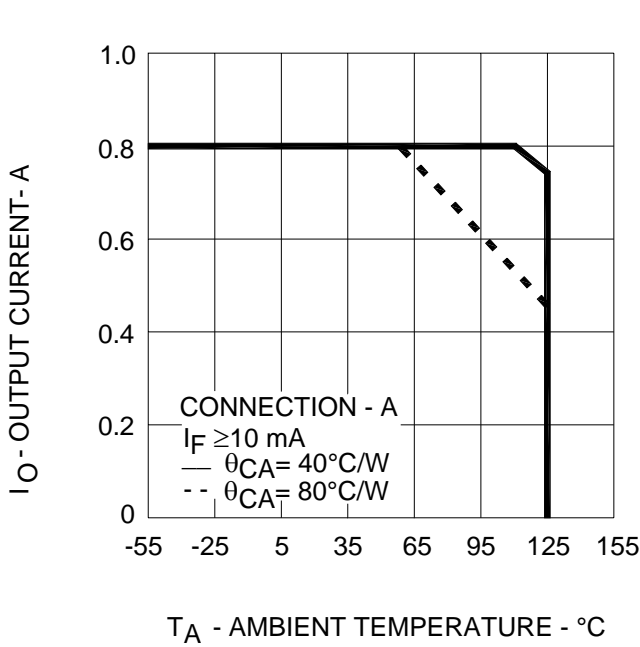

Figure 3. Maximum Average Output Current Rating vs. Ambient Temperature.
2. For rating, see Figure 5. The output power P_D rating curve is obtained when the part is handling the maximum average output current I_O as shown in Figure 3.